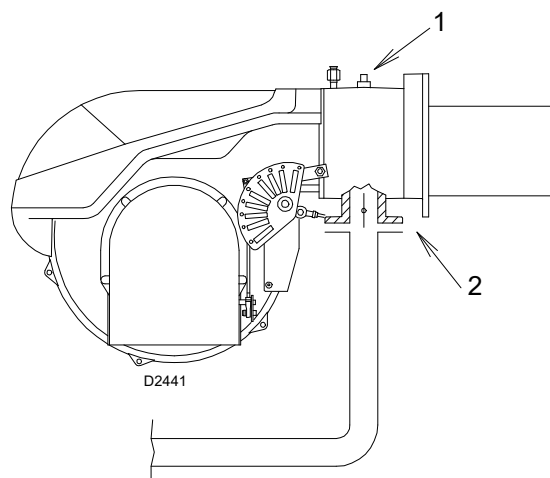

Fig. 32
Gas manifold pressure measured at test point 1)(Fig. 32), with:
- subtract the combustion chamber pressure from the gas pressure measured at test point 1)(Fig. 32).
- Gas pressure at test point 1)(Fig. 32) = 9.2" WC